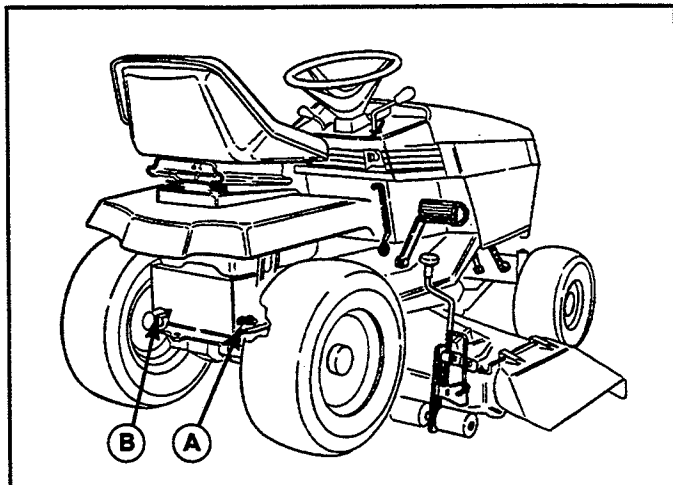

Figure 13. Transaxle Release Lever
3. See figure 13. The release lever is located under the rear tractor frame, above the transaxle. Release lever must be in the rearward position to push the tractor by hand.